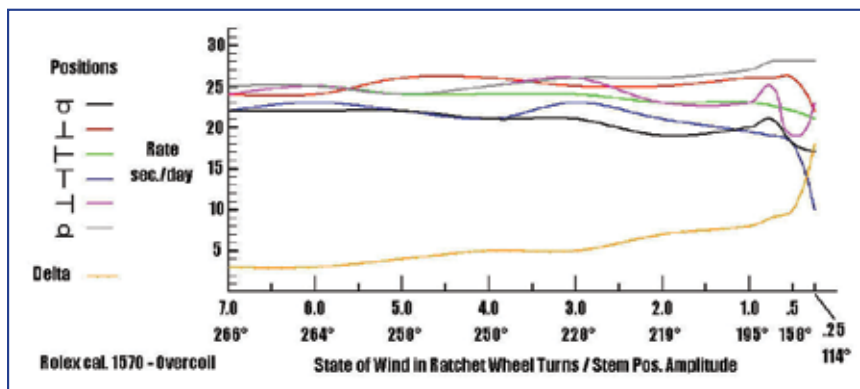

Figure 16
To standardize and simplify the testing, rate measurement was taken at 7 states of wind based on ratchet wheel rotations (W) where 7W is fully wound and 0W is fully unwound. All 6 positions were measured at each wind state. The measuring began with 7W and was repeated at 6W, 5W and so on ending with 1W. The results were graphed and the maximum rate variation between any two positions (delta) was extracted and graphed as well through the full range of wind. Because rate variation between positions is the focus, daily rate is not considered. The 6 position rates are placed in a positive range on the graph for convenience and only the differences between them is considered. The delta through the range of wind is, however, accurately shown by the seconds/day graduations on the y-axis. (See Figure 16.)
The rates were better than expected with a full wind delta of 3 seconds (Figure 16). The delta only increased to 5 seconds at a state of wind less than half wound (3W). At a wind state of only 1W, the delta still had only increased to 10 seconds. Due to these results the state of wind was reduced more to see where the rates would finally deviate greatly. At 0.5W, the delta began increasing sharply and reached 18 seconds at 0.25W. At this state, the amplitude is 114° in stem positions and 150° in dial positions. The watch is barely running and delta is still